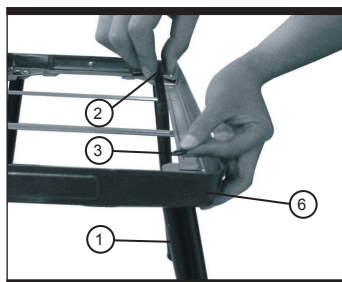

Fig 2
1. Connect the support legs ① to the base support using the bracket ⑥ hex screws and spring washer (see Fig 2).